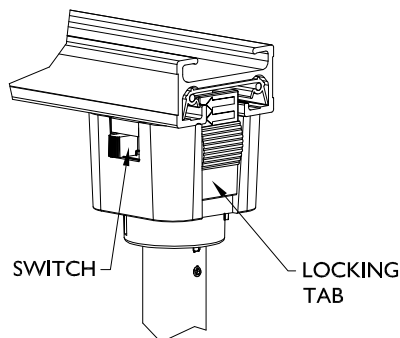

FIG. 4
1. Insert luminaire into TRACK as shown in FIG. 4. Arrows on ADAPTER on GROOVE SIDE OF TRACK